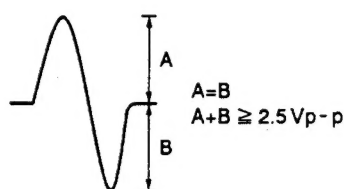

Figure 8
3. While watching the oscilloscope screen, press the PROGRAM key and observe the waveform in Figure 8 for a moment. Verify that the amplitude is at least 2.5 V_{p-p} and that the positive and negative amplitude are about equal. Since the waveform is only output for a moment when the PROGRAM key is pressed, press this key over and over until you have checked the waveform.